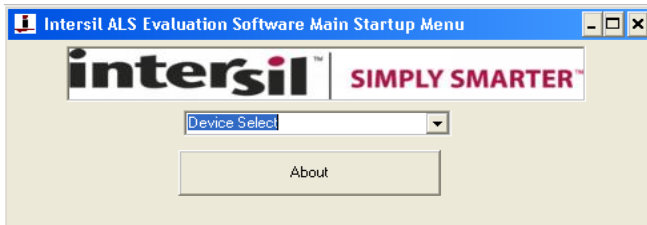

FIGURE 12.
- Once you have double-clicked the program, the window displayed in Figure 12 should open.